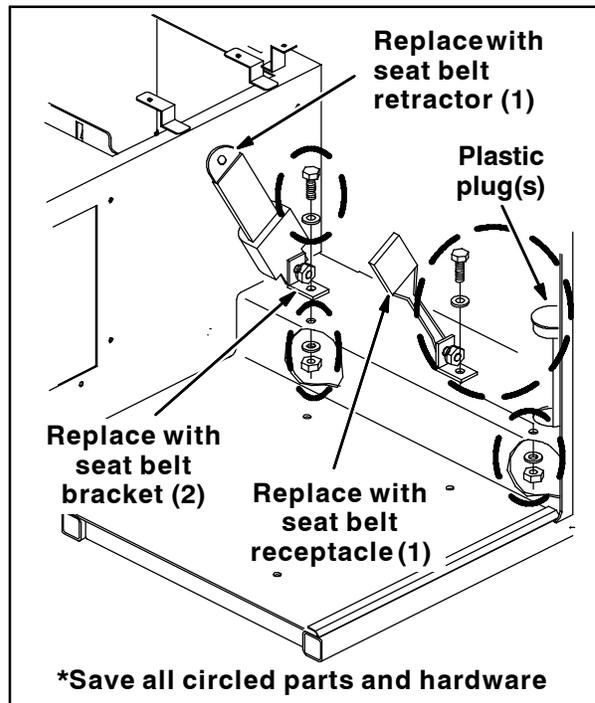
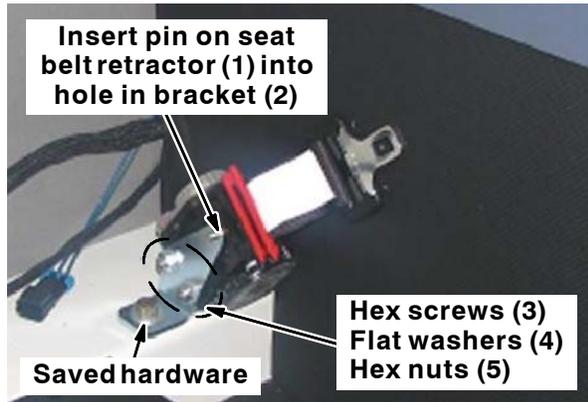
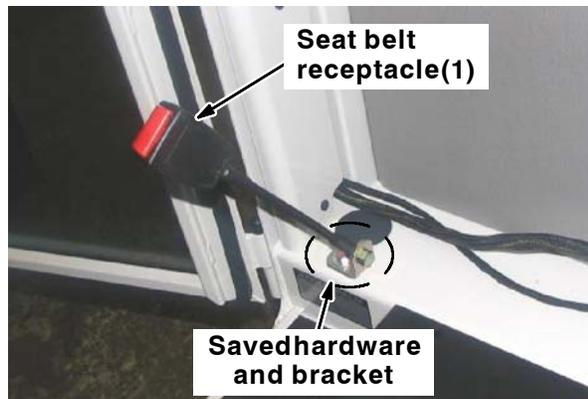

FIG. 5
FIG. 6
FIG. 7
4. Pry the plastic hole plugs located inside both rear corners of the cab to expose the hardware holding the cab down to the machine. Set the plastic plugs aside. Refer to Fig. 5.
1. Remove the hardware, seat belt retractor, and seat belt bracket from the machine. Set aside all hardware used to mount the seat belt retractor/seat belt bracket to the machine. Discard the seat belt retractor and seat belt bracket. Refer to Fig. 5.
2. Remove the hardware and seat belt receptacle from the machine. Set the hardware aside. Refer to Fig. 5.
3. Remove the seat belt receptacle from the bracket. Set the bracket and hardware aside. Discard the seat belt receptacle. Refer to Fig. 5.
4. Insert the pin on the new seat belt retractor (1) into the small hole in the seat belt bracket (2) and use two hex screws (3), four flat washers (4), and two hex nuts (5) to attach the seat belt retractor to the seat belt bracket. Refer to Fig. 6.
5. Use the hex nut and washer saved from the previous seat belt retractor/seat belt bracket to attach the new seat belt retractor (1)/seat belt bracket (2) to the machine. Refer to Fig. 5 and Fig 6.
6. Use the hardware set aside from the previous seat belt receptacle to attach the new seat belt receptacle (1) to the saved bracket. Refer to Fig. 5 and Fig. 7.
7. Use the hex nut and washer saved from the previous seat belt receptacle to attach the new seat belt receptacle (1)/seat belt bracket to the machine. Refer to Fig. 5 and Fig. 7.
10. Reinstall the plastic plugs into the cab. Refer to Fig. 5.